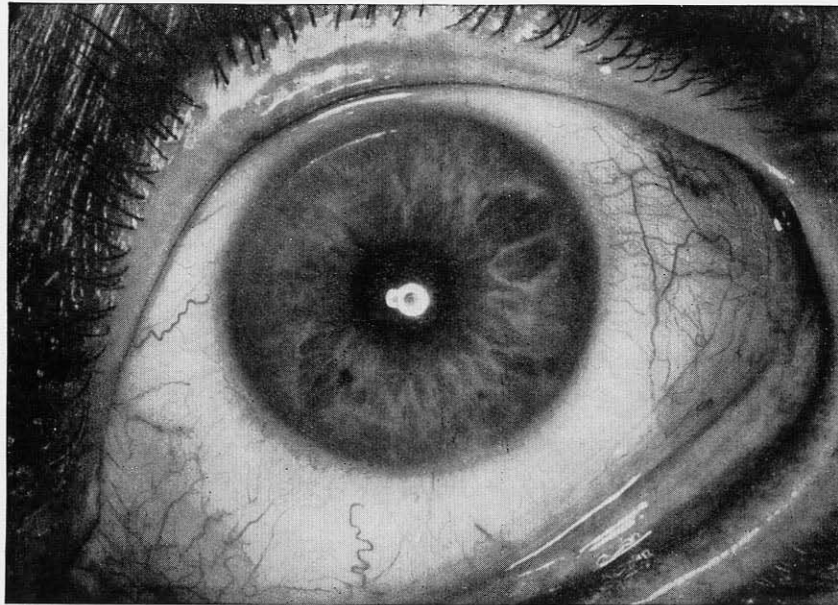

Fig. 10
6. Exposures of the eye (Fig. 10)